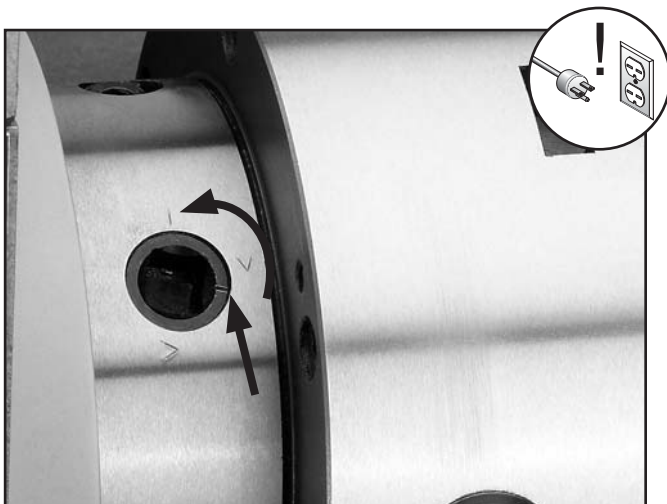

Figure 17. Indicator arrows.
3. Loosen the cam-locks by turning the chuck key counterclockwise approximately one-third of a turn until the mark on the cam-lock aligns with the single mark on the spindle nose in **Figure 17**. If the cam-lock stud does not freely release from the cam-lock, wiggle the cam-lock until the cam-lock stud releases.